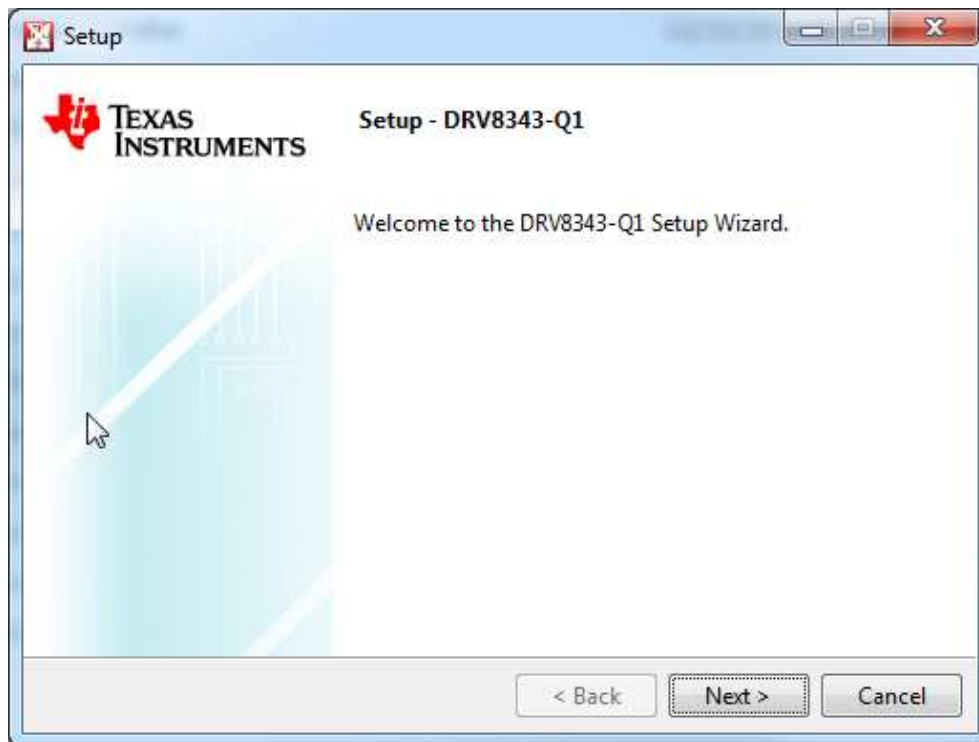

Figure 27. Setup GUI Home Screen
- Step 2. Click the *Next* button on the welcome screen of the DRV8343-Q1 installer (see Figure 27).